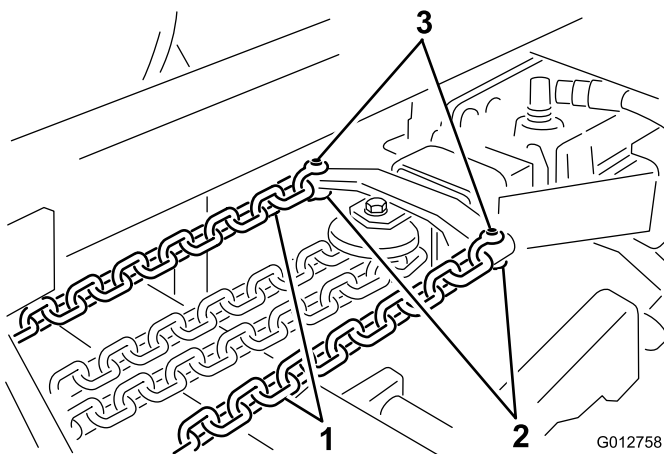

Figure 13
1. Connect (2) outer lift chains to pulley support with short shackles, clevis pins and cotter pins (Figure 13).